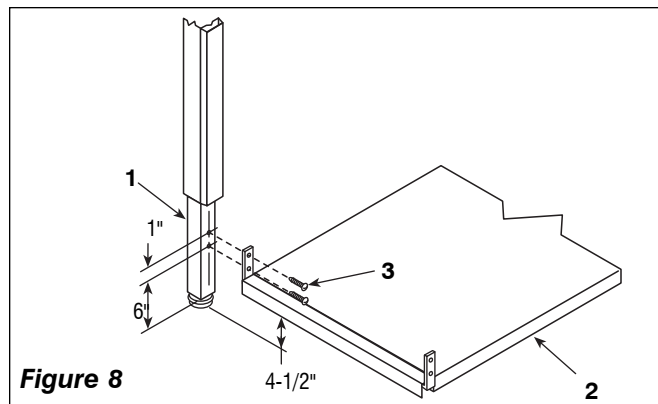

Figure 8
3. Measure six inches from the bottom of the lower leg assembly. Mark, center punch and drill a .199" diameter pilot hole (No.8 Drill) into the lower leg assembly (1) as shown. A 13/64" (.203 dia.) drill may be substituted for the No.8 drill bit if unavailable. (Fig. 8)
4. Measure up 1" from the previously drilled hole or measure seven inches from the bottom of the lower leg (1) and drill a second .199 diameter hole as shown in (Fig. 8)
6. Note, there should be approximately 4-1/2" clearance from the floor to the under side of the shelf at all four corners. (Fig. 8)
7. Slide the shelf assembly (2) between the legs and align the shelf stretcher bracket holes with the two .199" diameter pilot holes previously drilled into each leg. (Fig. 8)
8. Secure the shelf to each of the four lower leg assemblies using two No.14 x 1" pan head screws (3). (Fig. 8)